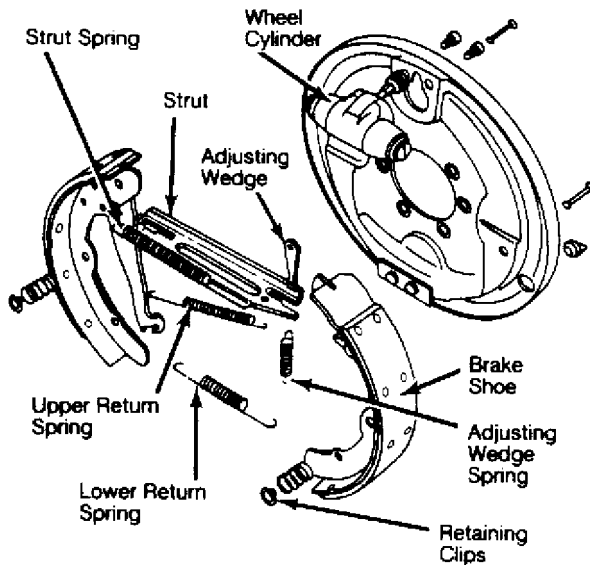

Fig. 4: Identifying Rear Brake Components (Typical)
1) Remove brake drum. See REAR BRAKE DRUM under REMOVAL & INSTALLATION. After removing drum, remove retainer clips, hold-down springs and anchor pins. Remove lower return spring. Disconnect parking brake cable from lever. See Fig. 4.